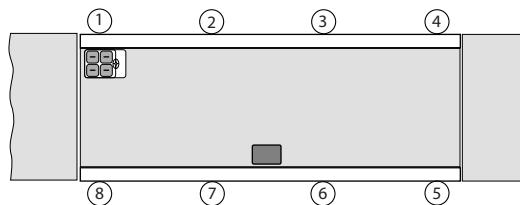

Figure 4-2. Trimming Load Cell Number One
1. Park the cart as close as possible to side 1 being trimmed with the wheels centered over the end load cell mount (No. 1 in Figure 4-2). Record the indicator reading. Remember that the scale is still uncalibrated, so the indicator readings are simply raw counts rather than weight units.